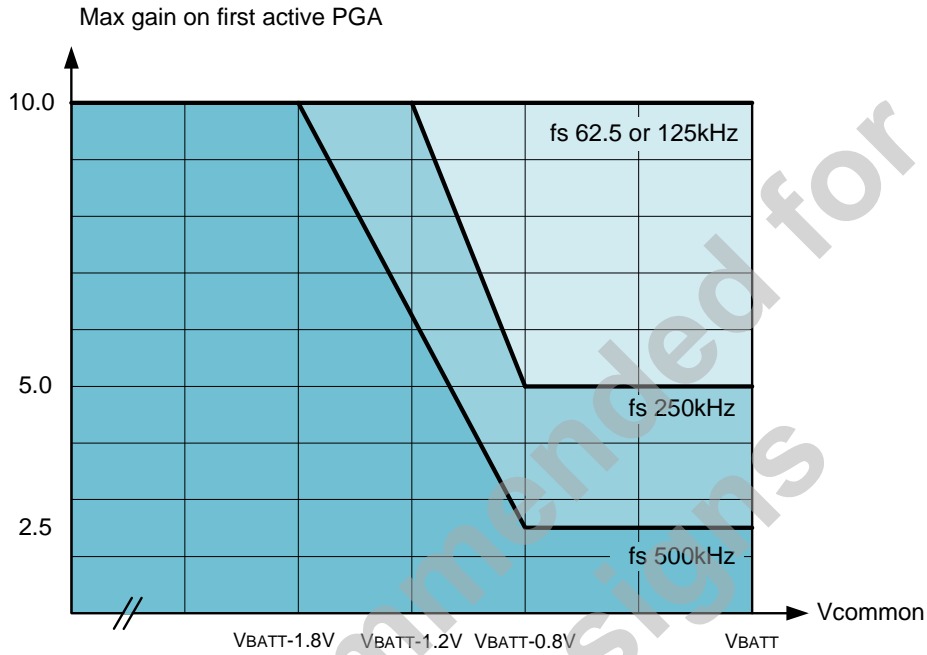
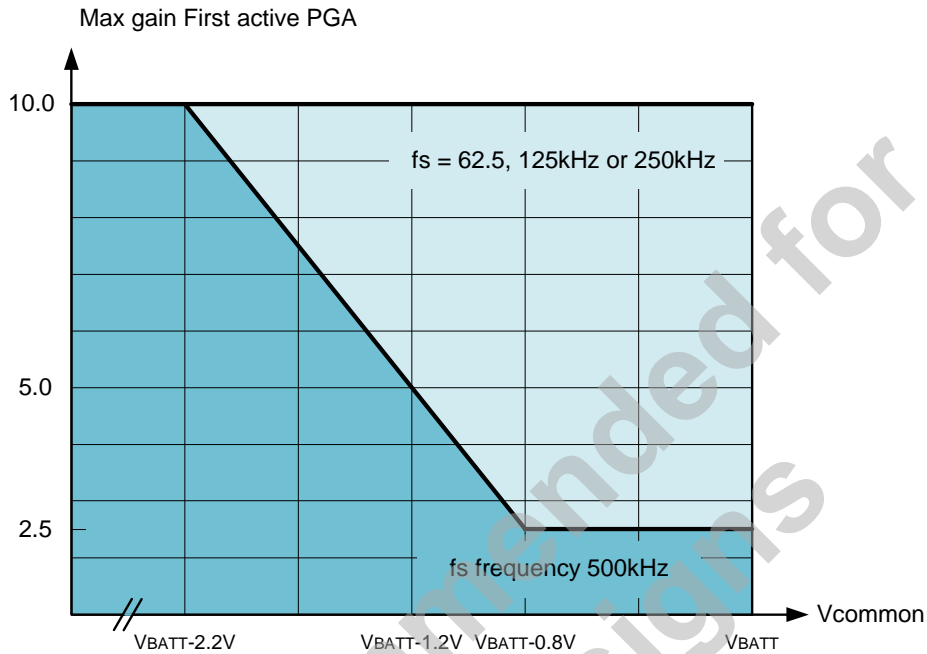

Figure 11. Common mode input range on PGA for  $V_{BATT}$  below 4.2V
Figure 12. Common mode input range on PGA for  $V_{BATT}$  above 4.2V
**Figure 11** and **Figure 12** illustrates the limits for the maximal conversion precision according to the common mode voltage ( $V_{COMMON}$ ), the *ADC* over-sampling frequency ( $f_s$ ) and *PGA* gains. The best linearity performances can be
obtained only below these limits, as depicted in Figure 11 if the supply voltage ( $V_{BATT}$ ) is below 4.2V and as depicted in Figure 12 if the supply voltage ( $V_{BATT}$ ) is above 4.2V.